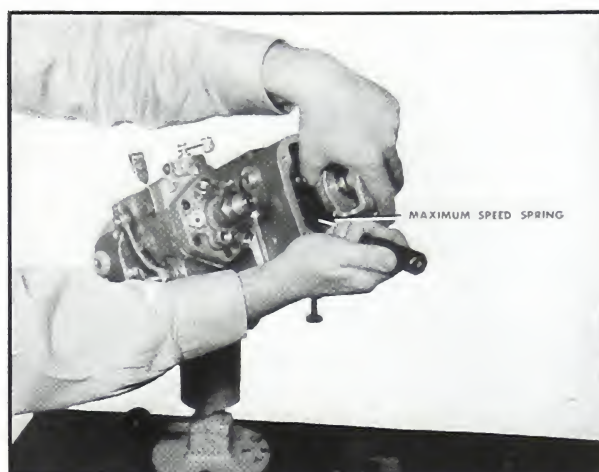

Fig. 5-361. Check maximum-speed spring for drag the fuel pump test stand.
3. As an additional check, hold the idle speed weights out and turn the maximum speed spring assembly with one finger; there should be a slight drag but the spring must not be locked. Fig. 5-361.